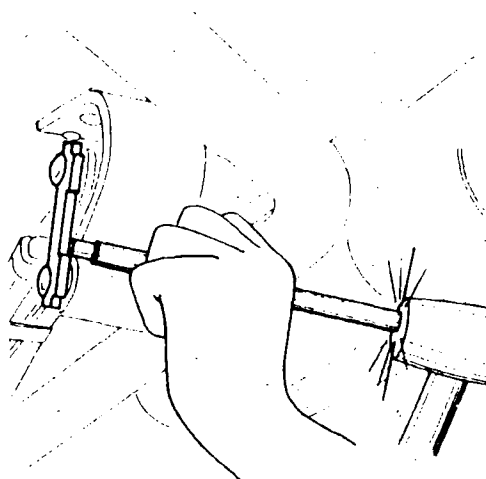

Fig. 4
- f Retire as algemas (fig. 4).